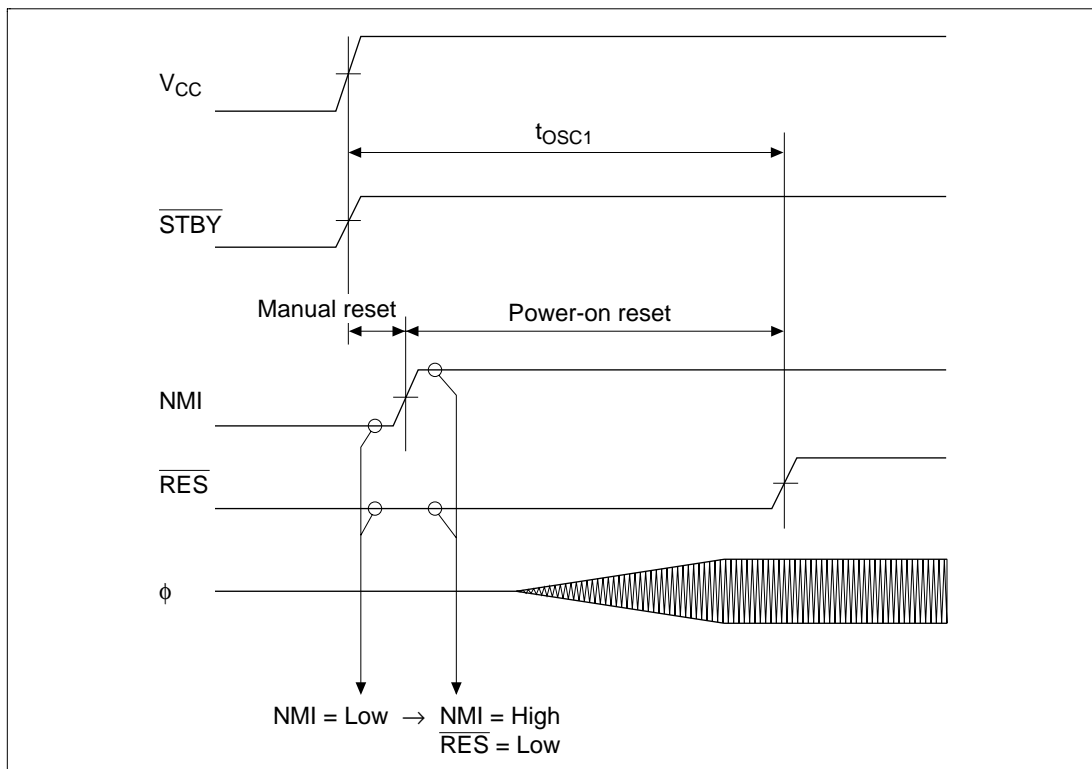

Figure E-1 When Pins Settle from an Indeterminate State at Power-On
- (1) To retain RAM contents with the RAME bit set to 1 in SYSCR, drive the $\overline{\text{RES}}$ signal low at least 10 states before the $\overline{\text{STBY}}$ signal goes low, as shown figure E-1. $\overline{\text{RES}}$ must remain low until $\overline{\text{STBY}}$ goes low (delay from $\overline{\text{STBY}}$ fall to $\overline{\text{RES}}$ rise: minimum 0 ns).